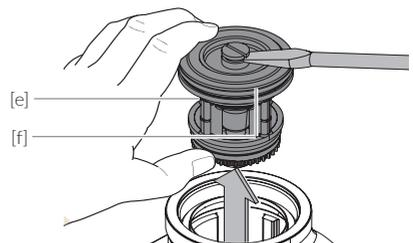

Fig. 9.8
- / Fig. 9.8: Remove cartridge [e] with the slide ring [f]